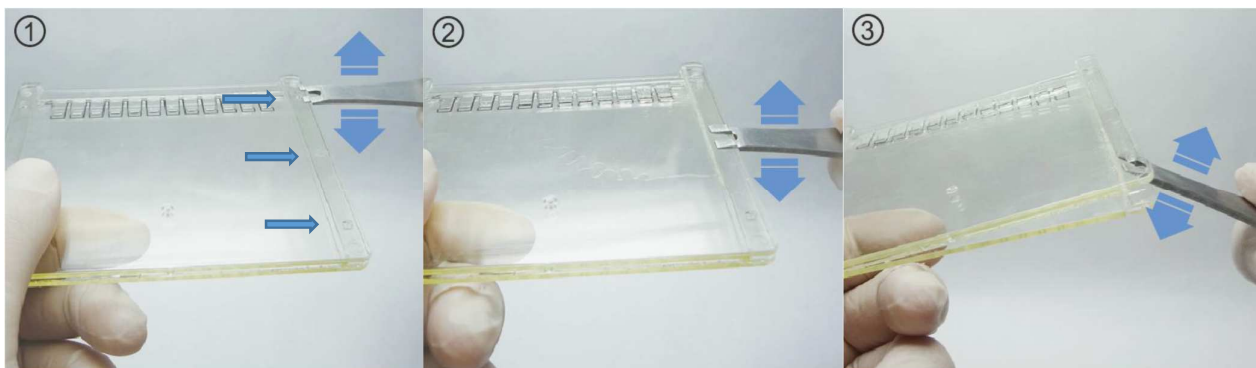

Figure 6. Open the gel cassette and remove the gel.
3. Removing the gel from the Cassette (see Figure 6)